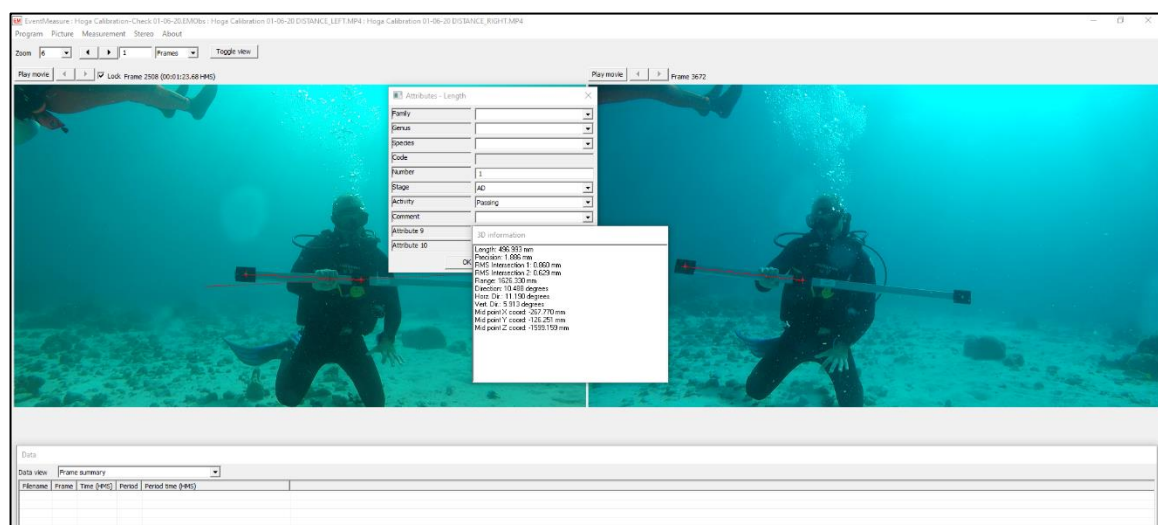

Figure 8. Screenshot from EventMeasure showing a 3D Measurement of the distance bar.
- Repeat the above two steps in the right image (see Figure 8).